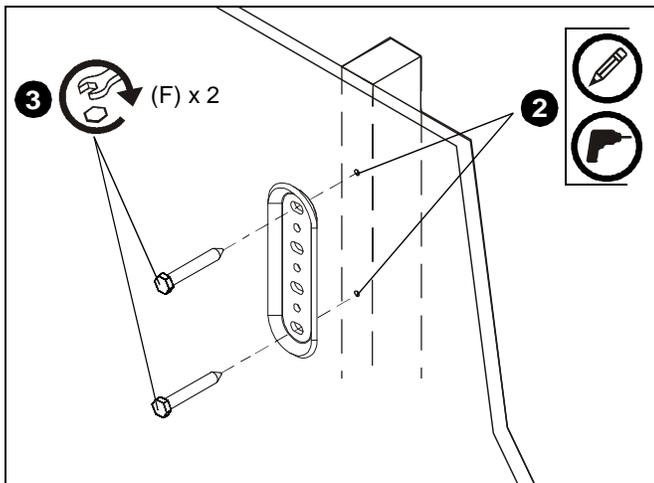
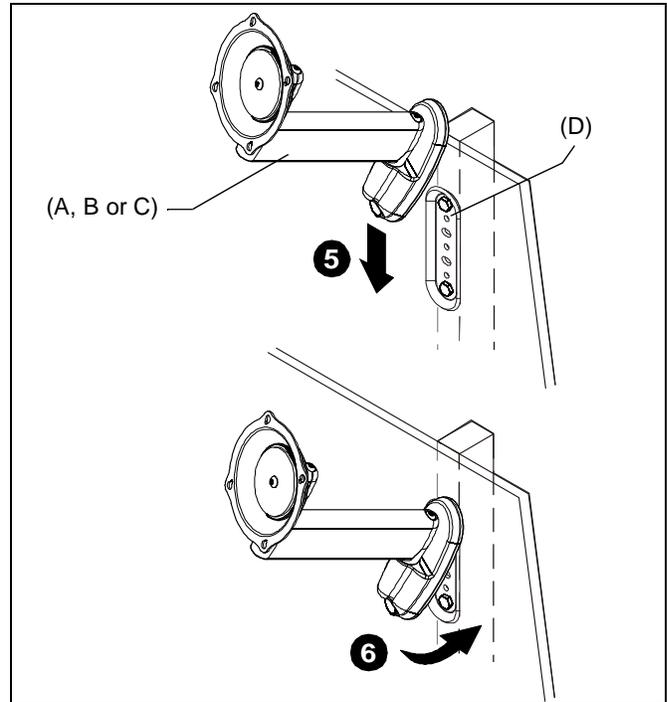

Figure 1
Figure 2
**NOTE:** Wall plate (D) **MUST** be installed into wood stud.
2. Using wall plate (D) as a template, mark then drill two 1/8" diameter pilot holes through top and bottom holes of wall bracket into wall structure. (See Figure 1)
3. Install two 3/8" x 3" hex head lag screws (F) through wall plate (D) and drywall into wood stud. (See Figure 1)
4. Ensure wall plate (D) is vertical, then tighten screws (D).
5. Insert top of wall mount (A, B or C) over lip on top of wall plate (D). (See Figure 2)